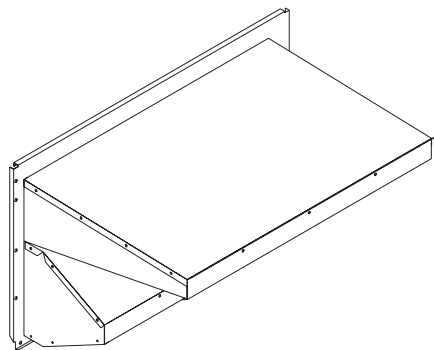

Fig. 27 — Completed Hood Assembly
5. Slide the outdoor-air inlet screens into the screen track on the hood side panels. While holding the screens in place, fasten the screen retainer to the hood using the screws provided. Repeat the process for the barometric exhaust air screen. *Do not attach completed (Fig. 27) hood assembly to unit at this time.*